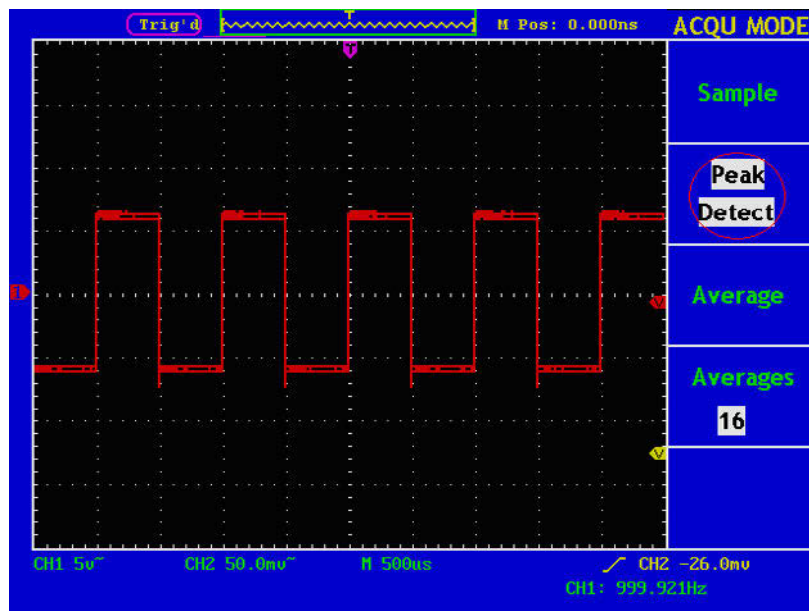

Figure 106. Signal with Noises.
- 2 Press **F2** to select Peak Detect function. The signal displayed on the screen containing some noise, by turning on Peak Detect function and changing time base to slow down the incoming signal, any peaks or burr would be detected by the function. (See Fig.106).